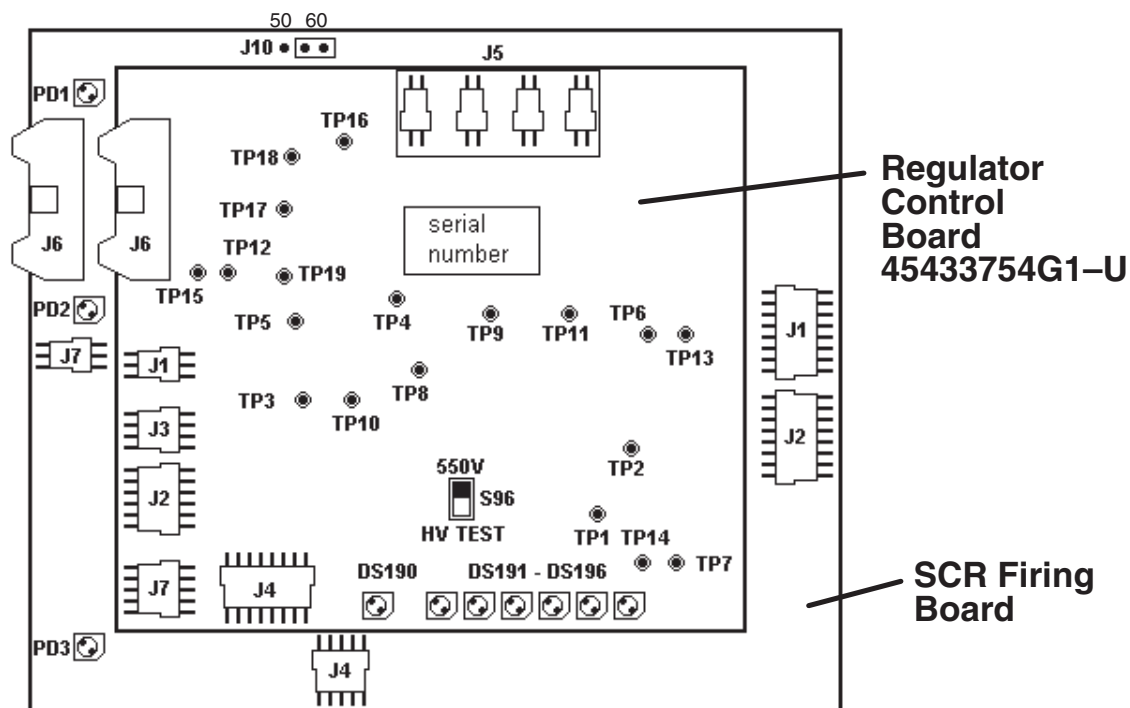

Figure 13-6 SCR Firing Board
- Note: Refer to Figure 13-6 TP2 and TP3 DCRGS Control Board for the time to reach 435 volts after Phase Loss lamp turned off.